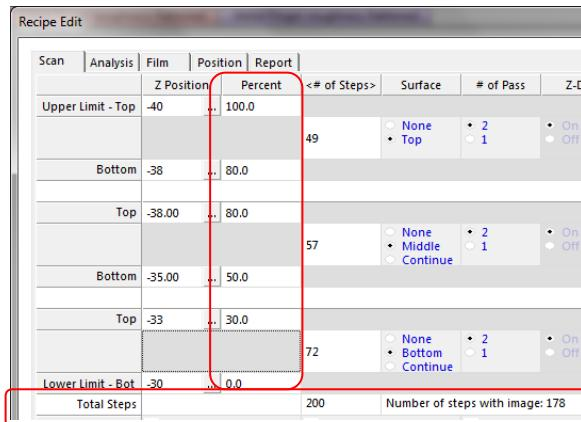

Fig. 90. Percent of scan distance and number of steps displays
- Enter the *Total Steps* into the recipe editor, as shown in Fig. 90. The software calculates the distance between steps using the *Upper Limit* and *Lower Limit* values. Gaps between zones have the effect of reducing the number of actual measurement steps because measurements are not made in those locations. Therefore you can enter a number larger than 200 for *Total Steps* in order to increase the *Number of steps with image* to 200.